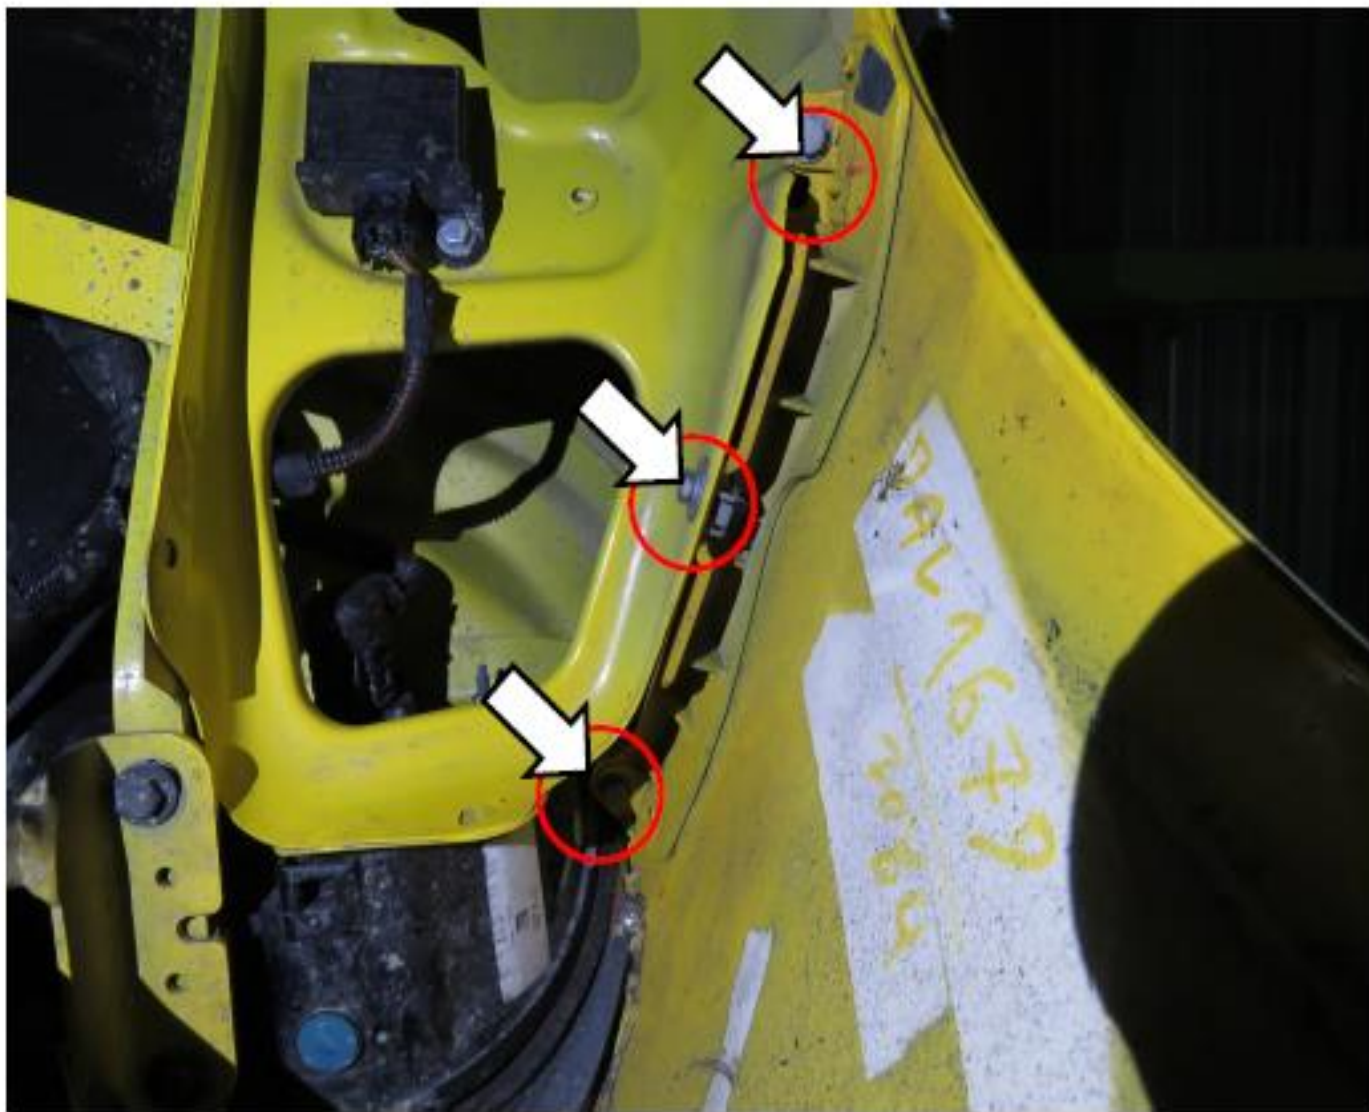

figure 6
2. The rear bumper needs to be removed to facilitate the removal of the exhaust pipe; three screws on each of the left and right sides must be unscrewed, and then the rear bumper can be removed (Fig. 6, Fig. 7).